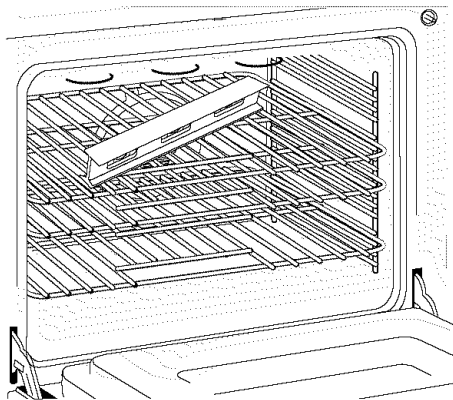

Figure 10
2. Place a level on the rack (see Figure 10). Take 2 readings with the level placed diagonally in one direction and then the other. Level the range, if necessary, by adjusting the 4 leveling legs with a wrench (see Figure 15).